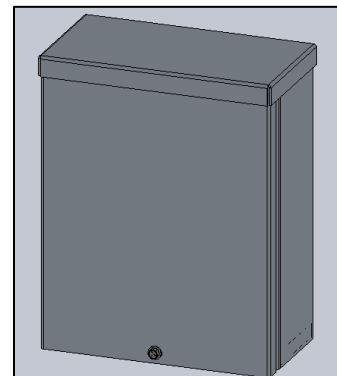

FIG. 6 - REMOTE DRIVER BOX
4. REMOTE DRIVER BOX WITH DRIVER INSTALLED (as shown in FIG. 6)